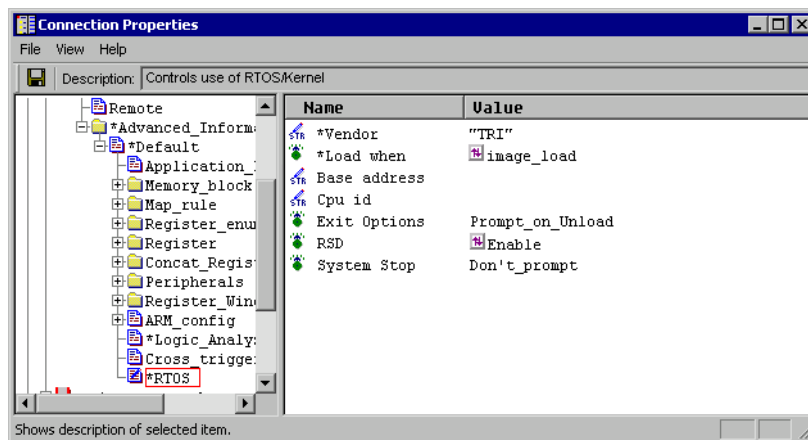

Figure 3-6 RTOS group in the Connection Properties window
5. Double-click on the RTOS group, in the right pane, to see the RTOS configuration settings, shown in the example in Figure 3-6 on page 3-14.
As shown in Figure 3-6, configure RTOS operation in your board file using the RTOS group: